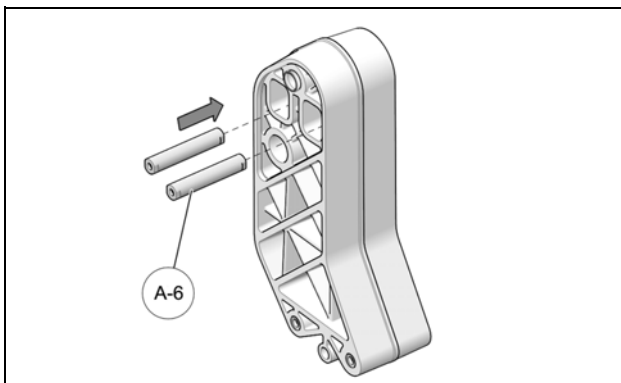

Figure 2
- Insert the two upper rods (A-6) in the openings of the Ski Upright. The flats machined on the ends of the shafts must be positioned in the openings of the Side Plate installed in the preceding step. See Figure 2.